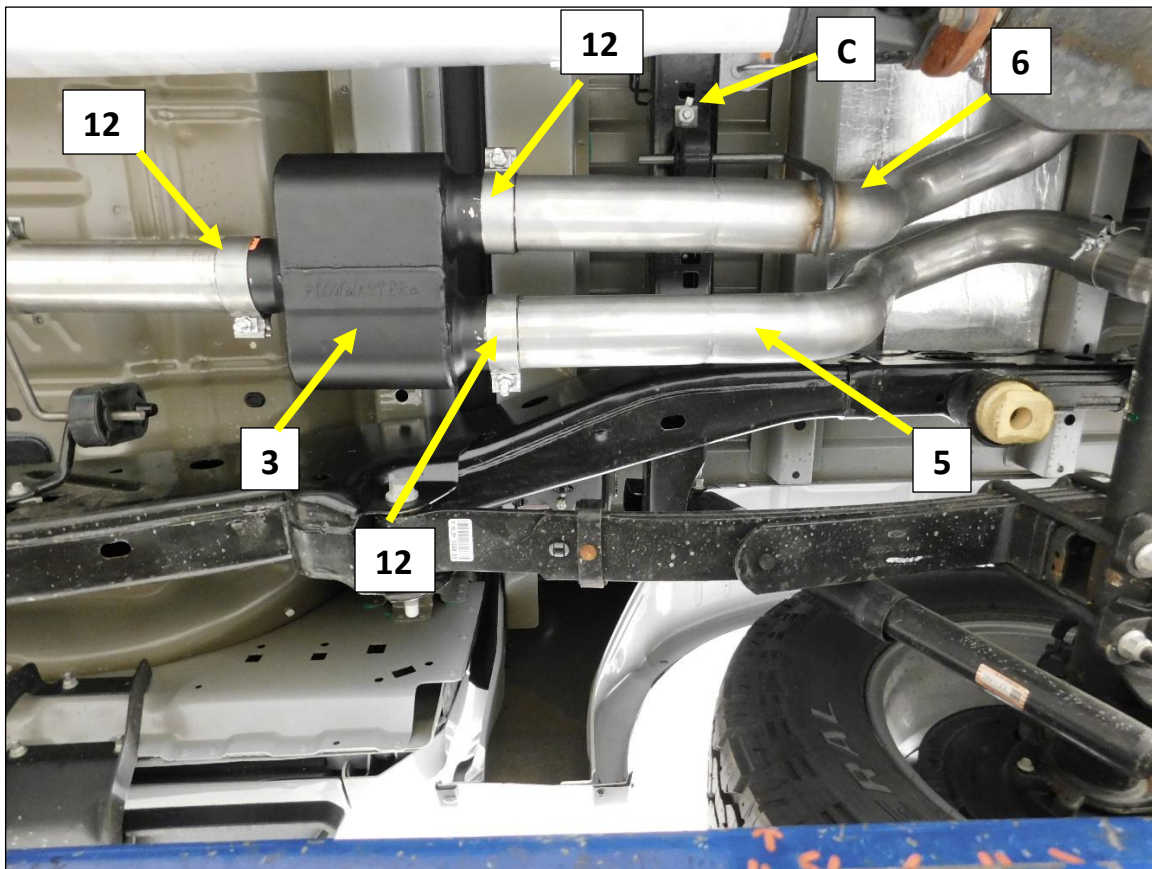

Figure 9
1. Install a 3" band clamp (12) on to each of the three-muffler inlet and outlet pipes with the bolt to the outside and the nut facing down. **Fig. 9**
2. Install the Outlaw Muffler (3) on to the muffler inlet pipe with the Flowmaster logo facing the ground. **Fig. 9**
3. Tighten the inlet clamp (12) to allow for adjustment.
4. Reinstall the muffler hanger assembly (C). * Be sure the tab is in the slot (not the round hole). **Fig. 9**
5. Install the left Muffler Outlet Pipe (6) into the muffler while guiding the hanger rod into the isolator (C). **Fig. 9**
6. Install the Right Muffler Outlet pipe (5) into the muffler and tighten the clamp to allow for adjustment. **Fig. 9**